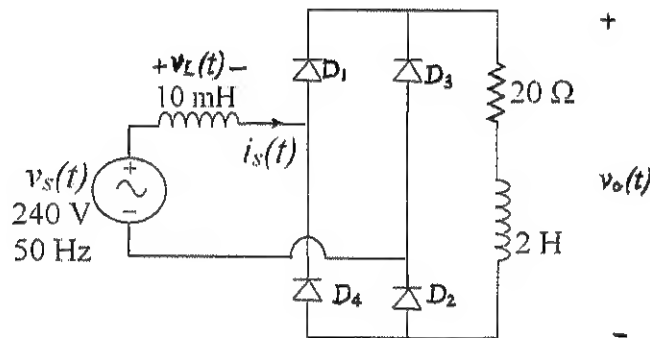

Figure Q2(a)
- (a) Figure Q2(a) shows a diode bridge rectifier with negligible voltage drop across all diodes. Calculate for the following: